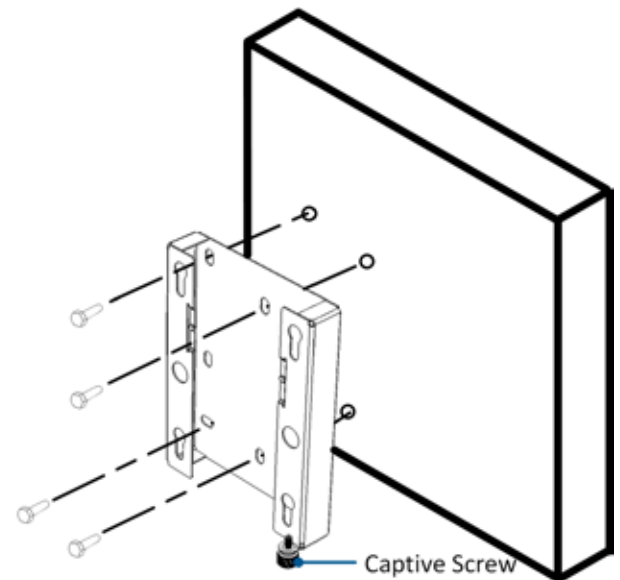

Figure 1. Example of Mounting Bracket Installation and Captive Screw Location (Bottom Right)
- When mounting the bracket on a wall, the captive screw (indicated in Figure 1) should always be positioned in the same direction as the RAU5x connectors.